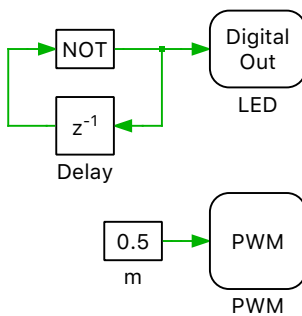

Figure 3: Controller schematic with PWM block added
- 2** Use a Constant block to provide the duty cycle to the PWM block. To generate a PWM signal with a 50% duty cycle, the constant value should be set to 0.5. You may refer to the schematic shown in Fig. 3 for this step.